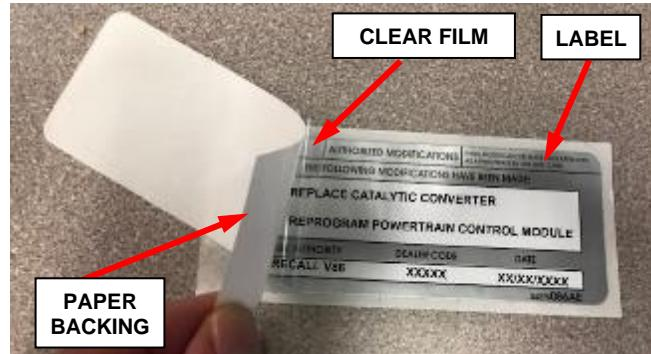

Figure 53 – Apply Clear Film
2. Remove the paper backing from the clear film on the front of the authorized modifications label then carefully apply the clear film over the front of the authorized modifications label (Figure 53).